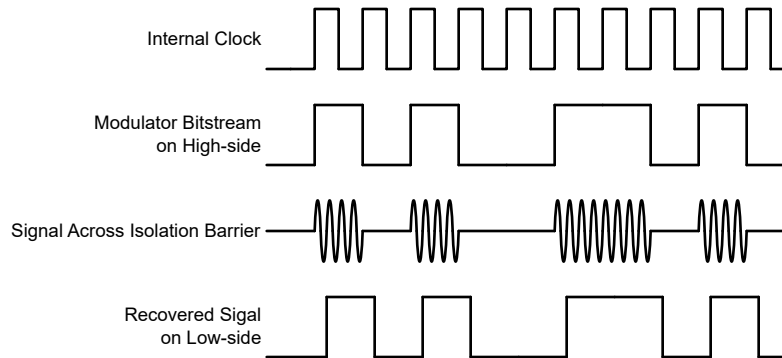

Figure 7-1. OOK-Based Modulation Scheme
As shown in Figure 7-1, the AMC0380R-Q1 uses an on-off keying (OOK) modulation scheme to transmit the modulator output bitstream across the SiO₂-based isolation barrier. The transmit driver (TX) is illustrated in the Functional Block Diagram. TX transmits an internally generated, high-frequency carrier across the isolation barrier to represent a digital one. However, TX does not send a signal to represent a digital zero. The nominal frequency of the carrier used inside the AMC0380R-Q1 is 480MHz.